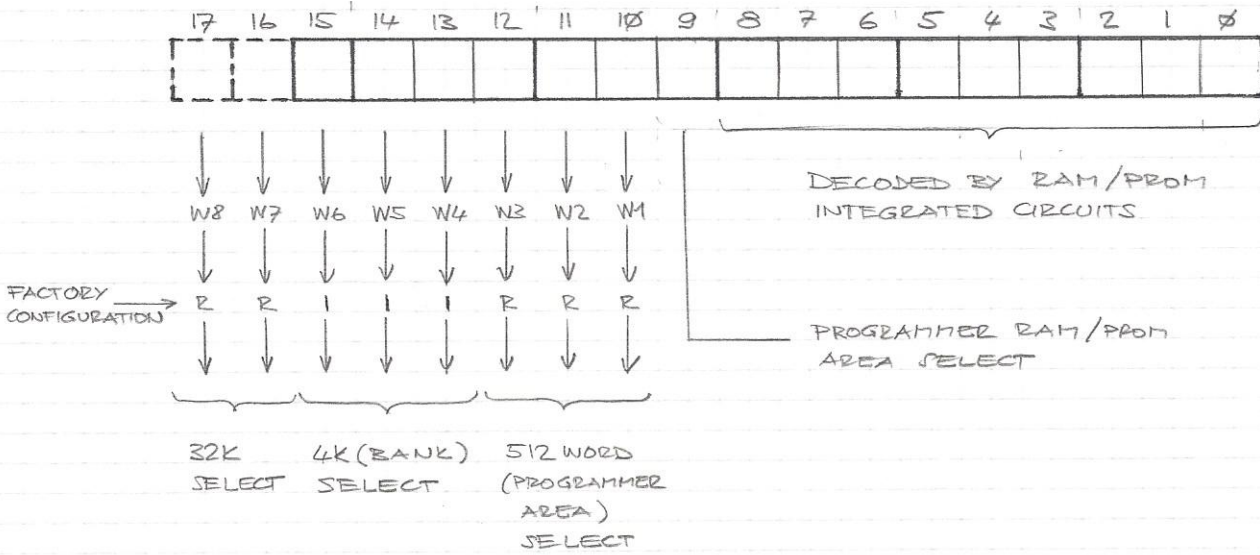

Fig. 3-4
- Start programmer at start address 161000 by means of ODT commands or under program control by a Jump to Subroutine (JSR PC). (Start address is dependent on address assignement of VMP11-A programmer, refer to Fig. 3-4.)